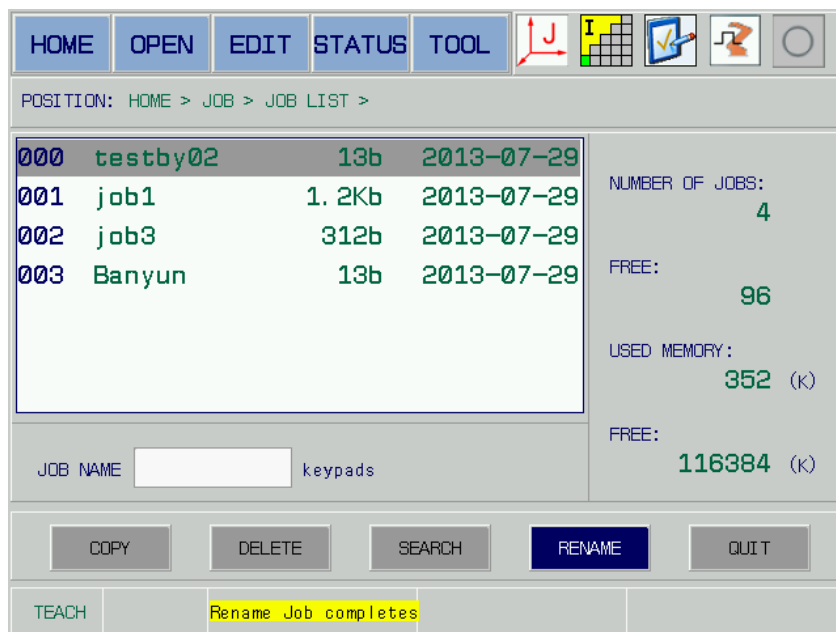

Fig. 5-21
4. Press the [SELECT], the program name “testby01” in the Job list is renamed into “testby02”; refer to the Fig. 5-21.